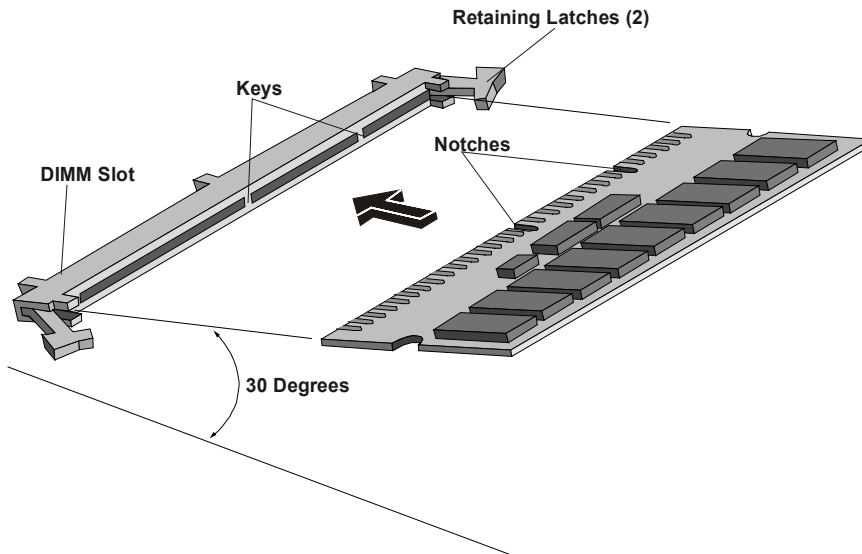

Figure 4-3. DIMM to Slot Alignment
8. Spread the two retaining latches on the slot outward. See Figure 4-3.
10. Align the notches on the DIMM with the keys on the slot. See Figure 4-3.